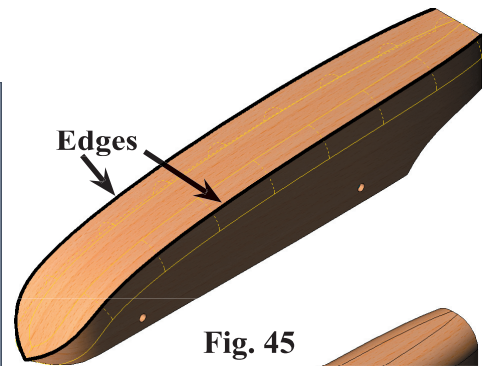

Fig. 45
Step 3. Click the **top edge on both sides** of the body, **Fig. 45**.